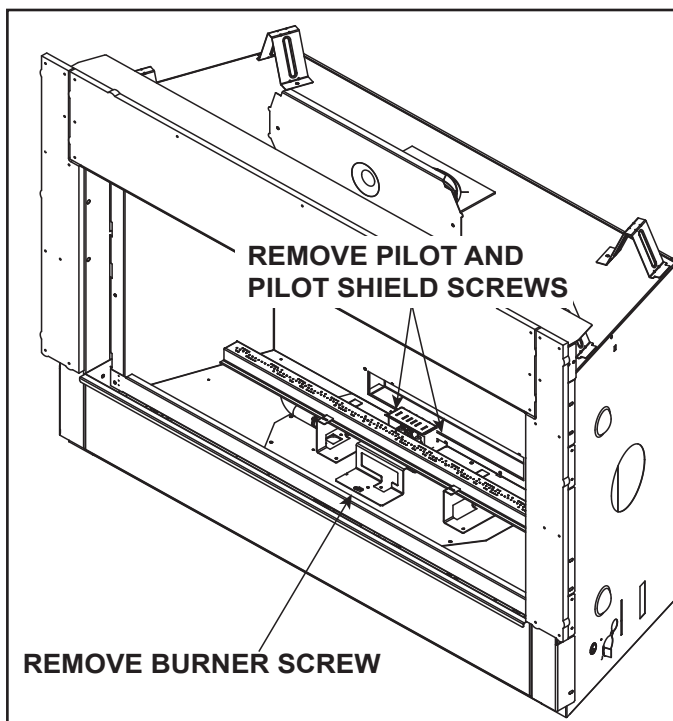

Figure 9.2 Burner Removal
2. Remove the two screws that secure the pilot shield to the burner bracket and remove the two screws that secure the pilot assembly to the burner bracket. Remove the one screw that secures the burner bracket to the valve plate. See Figure 9.2. Gently push the pilot assembly backwards to allow for the burner to be removed.